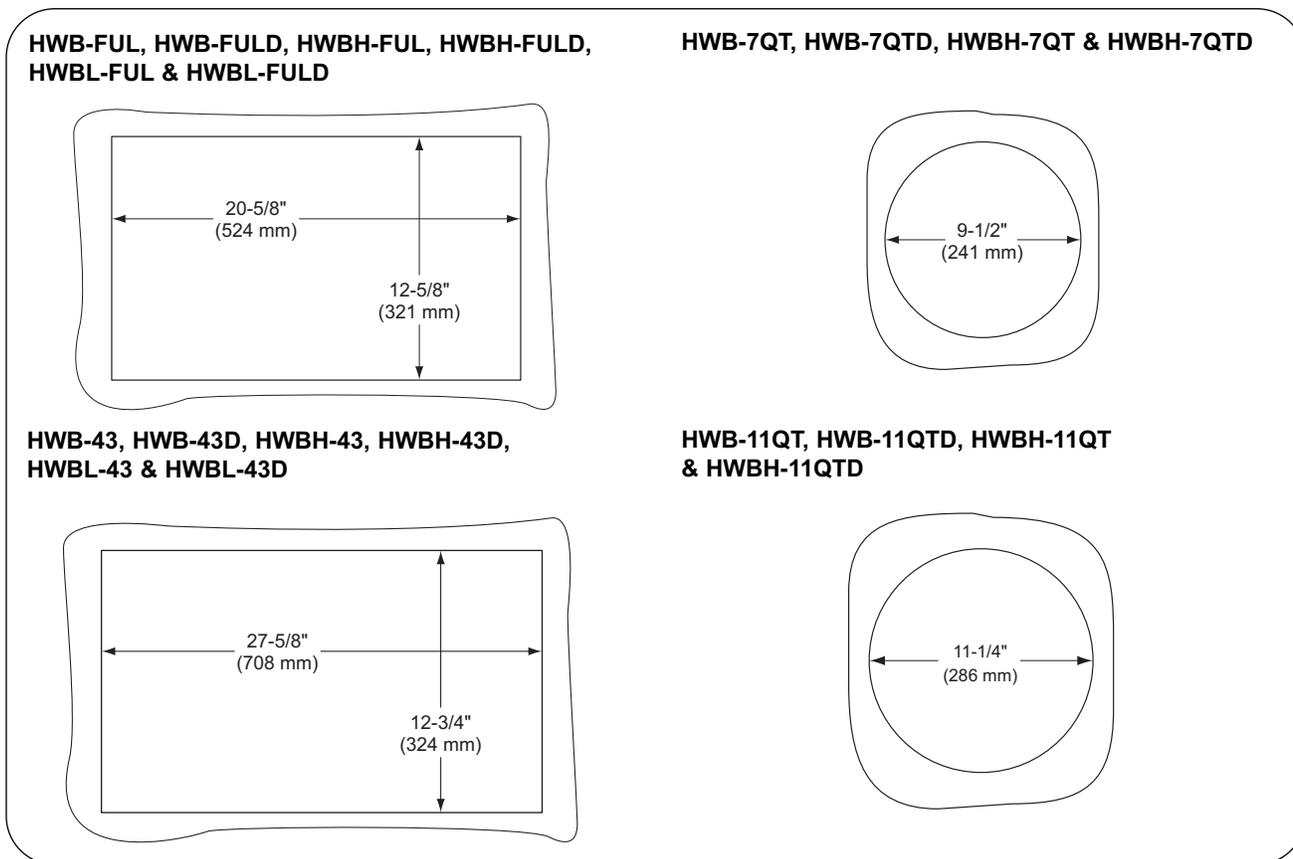

Figure 11. Non-Combustible Countertop Mounting Templates
1. Cut appropriate opening in countertop. (See Figure 11 for size requirements.)